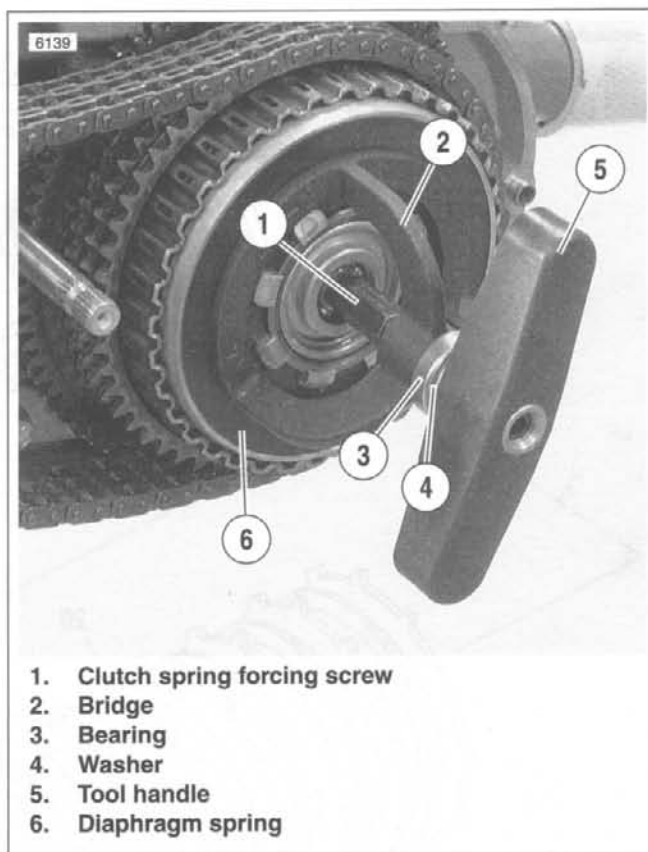

Figure 6-14. Compressing Clutch Diaphragm Spring
2. See Figure 6-14. Attach tools to compress clutch diaphragm spring.
- a. Thread the CLUTCH SPRING FORCING SCREW (Part No. HD-38515-91) (1) onto the clutch adjusting screw.
- b. Place the bridge (2) of SPRING COMPRESSING TOOL (Part No. HD-38515-A) against diaphragm spring (6).
- c. Install bearing (3) and washer (4).
- d. Thread the tool handle (5) onto end of forcing screw.